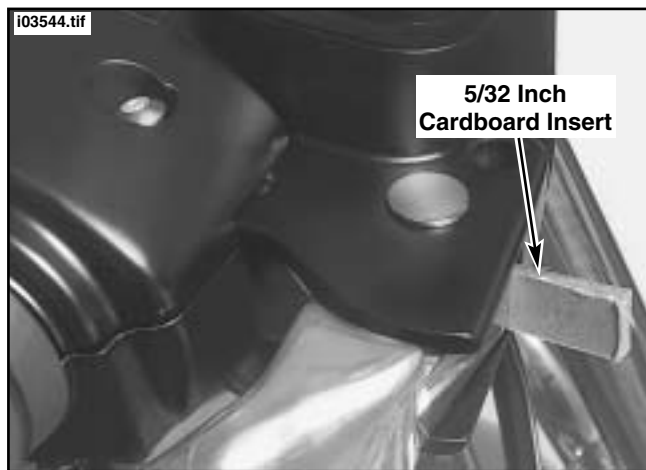

Figure 4. Install Cardboard Insert
- See Figure 4. Place a 5/32 inch cardboard insert between the brake lever and lever bracket.
Refer to Figure 4. Do not remove the 5/32 inch cardboard insert wedged between the brake lever and lever bracket. Removal will result in damage to the rubber boot and plunger of the Front Stoplight Switch during installation of the master cylinder assembly.